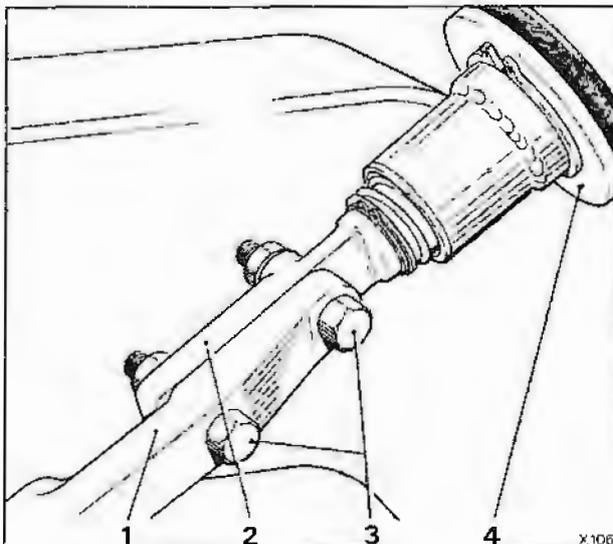

Fig. N5-1 Steering column link to linkage arm
4. Remove the two bolts which secure the steering column link to the lower steering unit linkage (see fig. N5-1).
(see figs. N5-1 and N5-5)
(see figs. N5-1, N5-5, N5-6, and N5-7)
9. Align the column link face to the lower linkage arm face (see fig. N5-1). Fit the splined coupling onto the pinion box spline. **Ensure that on 1989 model year cars the pinch bolt aligns with the flat on the spline.** Fit the pinch bolt, washers, and castellated nut; lightly tighten the nut.
11. Fit the two 'fitted' bolts into the underside of the steering column linkage (see fig. N5-1).